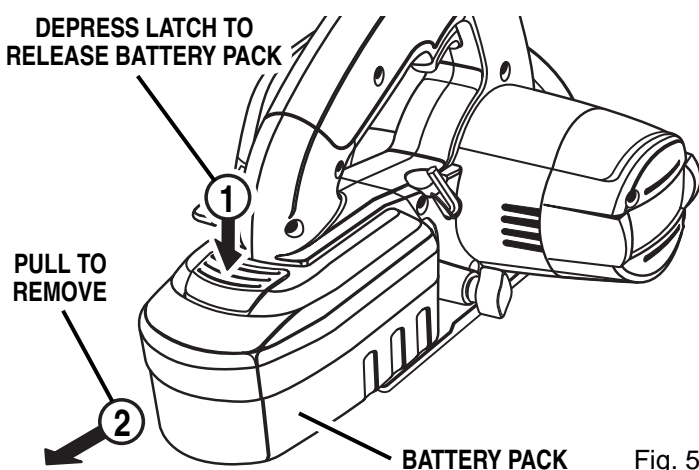

Fig. 5
See Figure 5.
- Locate latch on end of battery pack and depress to release battery pack from your saw. See Figure 5.